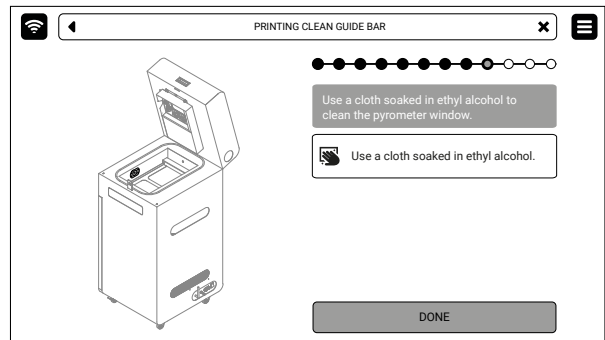

Fig. 6.11 Wipe the pyrometer window.
6. Wipe the pyrometer window again with a dry cotton cloth, in order to remove any alcohol residue. Press **DONE** (fig. 6.11)